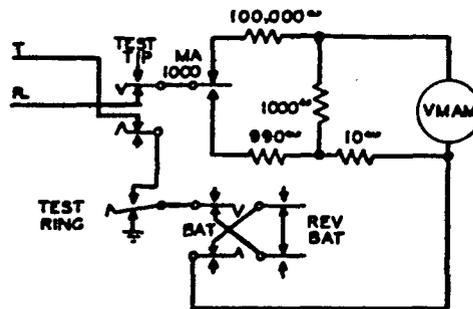

Fig. 7 - Potential on Ring
3.20 Potential on Ring (See Fig. 7): Operate the TEST RING key.